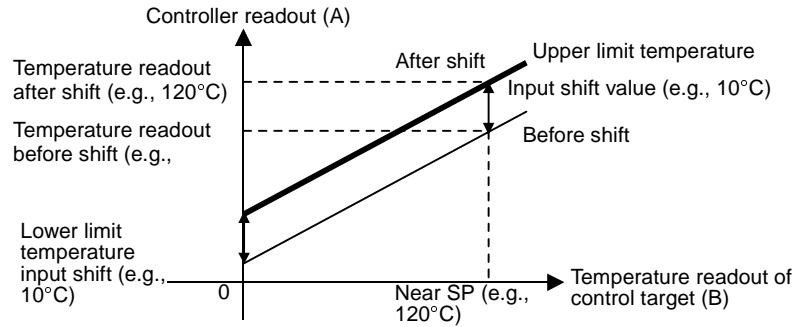

Figure 2 One-point Temperature Input Shift
*Figure 2* shows the effect of one-point temperature input shift.
- After you have set the input shift values, check Controller readout (A) and control target temperature (B). If they are almost the same, the temperature input shift value is correct.